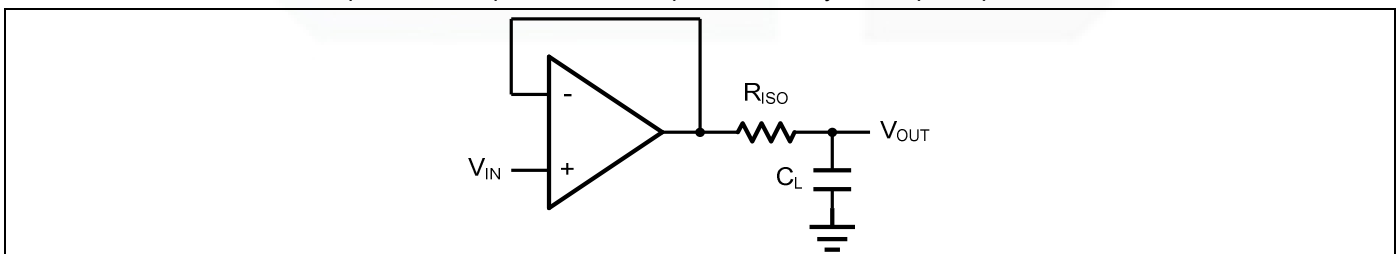
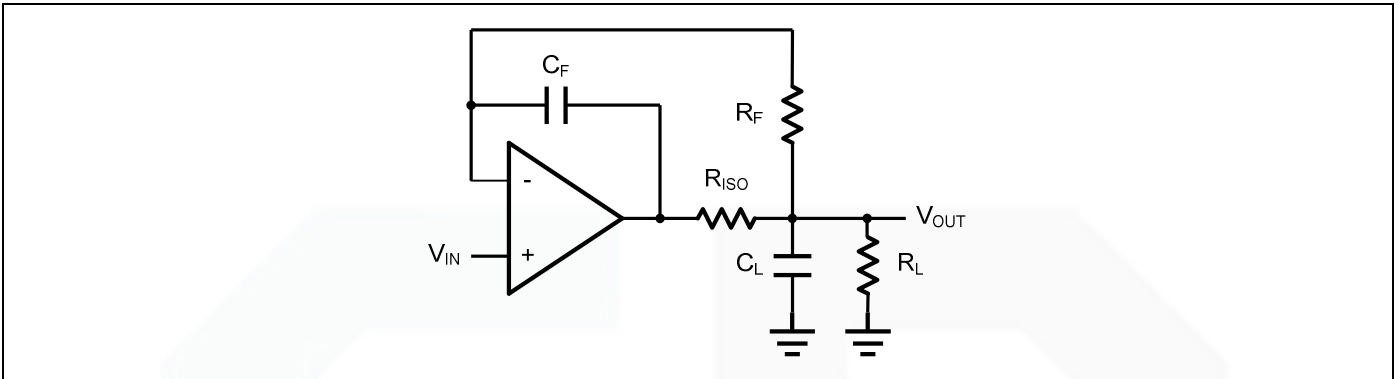

Figure 2. Indirectly Driving a Capacitive Load Using Isolation Resistor
Figure 3. Indirectly Driving a Capacitive Load with DC Accuracy
The GS8600 is optimized for bandwidth and speed, not for driving capacitive loads. Output capacitance will create a pole in the amplifier's feedback path, leading to excessive peaking and potential oscillation. If dealing with load capacitance is a requirement of the application, the two strategies to consider are (1) using a small resistor in series with the amplifier's output and the load capacitance and (2) reducing the bandwidth of the amplifier's feedback loop by increasing the overall noise gain. Figure 2. shows a unity gain follower using the series resistor strategy. The resistor isolates the output from the capacitance and, more importantly, creates a zero in the feedback path that compensates for the pole created by the output capacitance.
The circuit in Figure 3 is an improvement to the one in Figure 2.  $R_F$  provides the DC accuracy by feed-forward the  $V_{IN}$  to  $R_L$ .  $C_F$  and  $R_{ISO}$  serve to counteract the loss of phase margin by feeding the high frequency component of the output signal back to the amplifier's inverting input, thereby preserving the phase margin in the overall feedback loop. Capacitive drive can be increased by increasing the value of  $C_F$ . This in turn will slow down the pulse response.